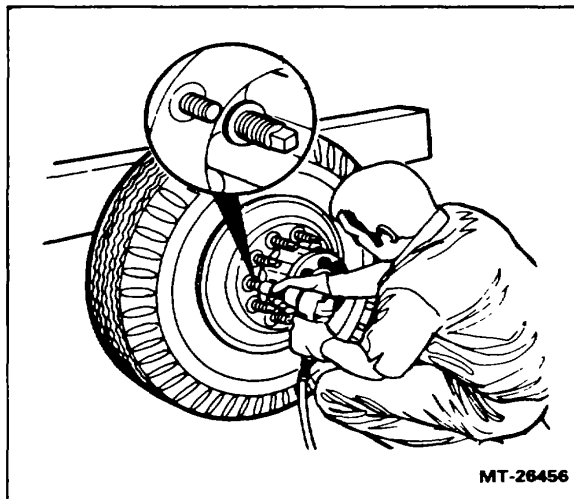

Figure 11. - Remove Inner Wheel Nuts
6. On dual wheel installations, remove the inner wheel nuts (Figure 11).